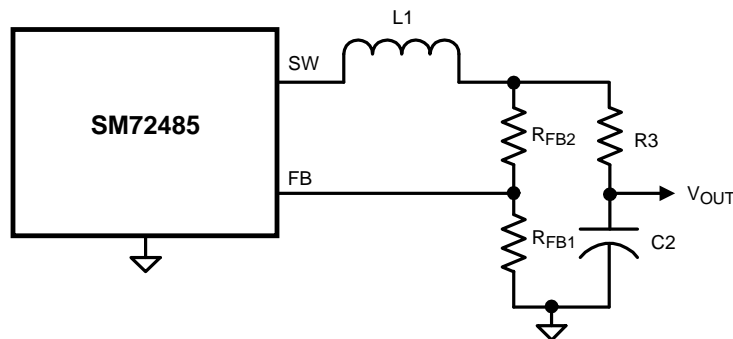

Figure 17. Alternate Minimum Output Ripple
c) Alternate minimum ripple configuration: The circuit in Figure 17 is the same as that in the Block Diagram, except the output voltage is taken from the junction of R_3 and C_2 . The ripple at V_{OUT} is determined by the inductor's ripple current and C_2 's characteristics. However, R_3 slightly degrades the load regulation. This circuit may be suitable if the load current is fairly constant.